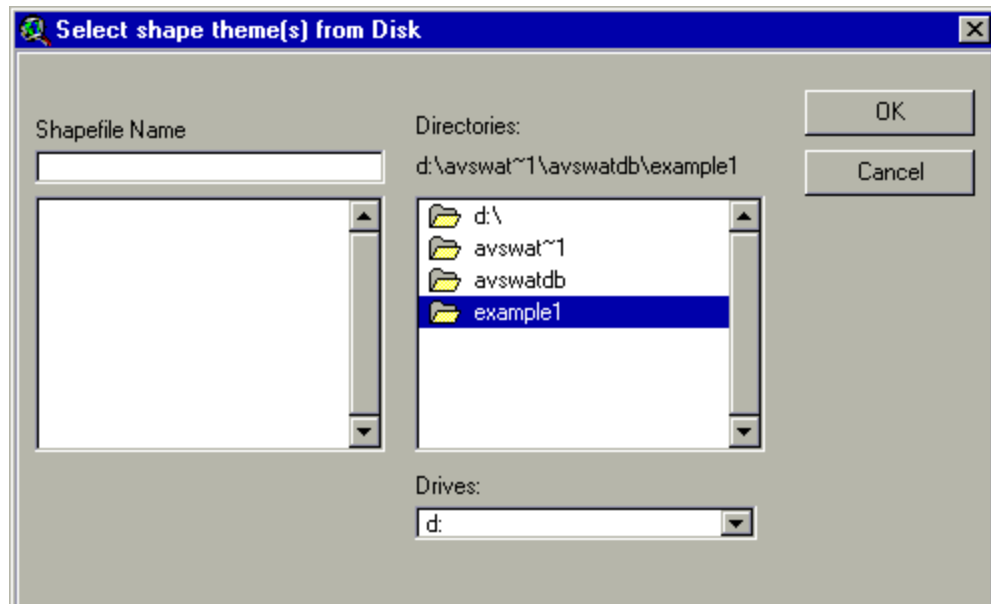

Figure 6.29
- ii. If loading from disk, a file browser pops up (Figure 6.29).